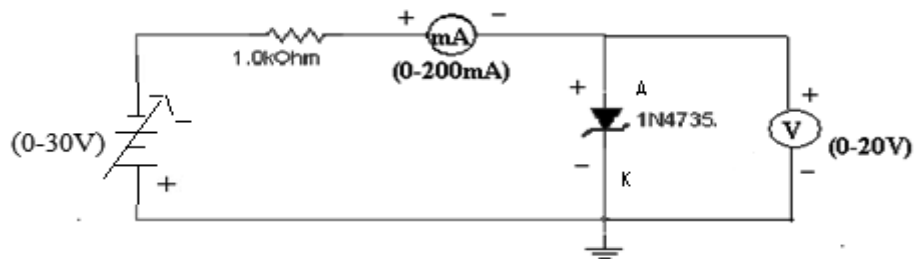

Figure 3: Zener diode in reverse bias
7. Connect the circuit as shown in figure 3.